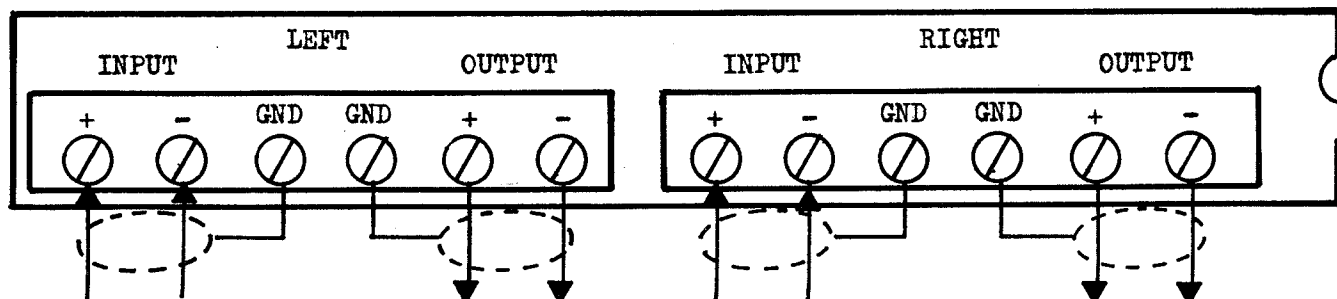

FIGURE 2-3 BALANCED OPERATION CONNECTION DIAGRAM
2.2.2 Balanced Operation (Figure 2-3)